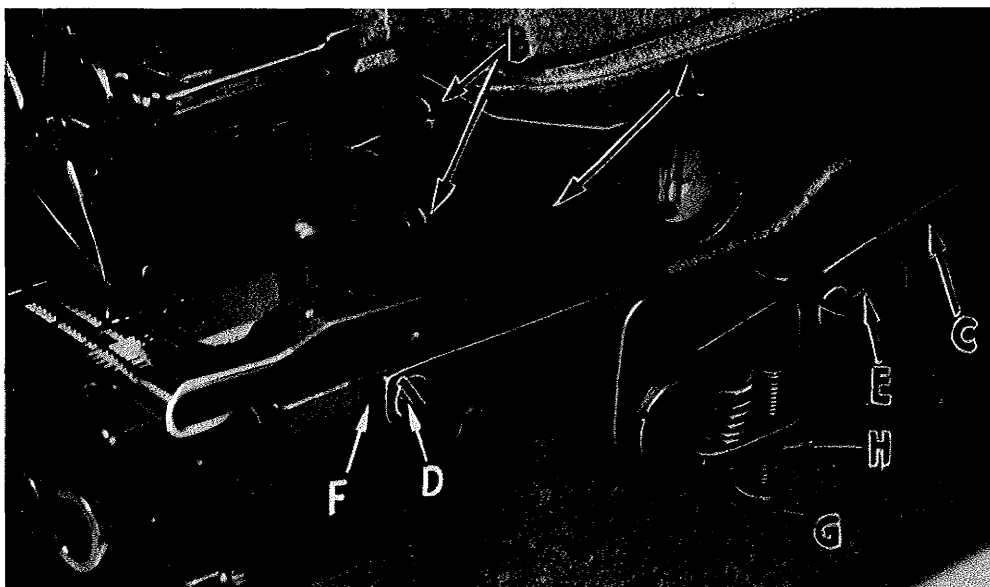

Fig. 18
Mount the retractable edge guide lever bracket (A, Fig. 18) onto the casting with
Adjust the amount of retraction of the edge guide bracket (F, Fig. 18) by positioning the adjusting stop screw (G). The position of the screw will depend on the thickness of the seam to be crossed. The locking nut (H) should then be tightened into place.